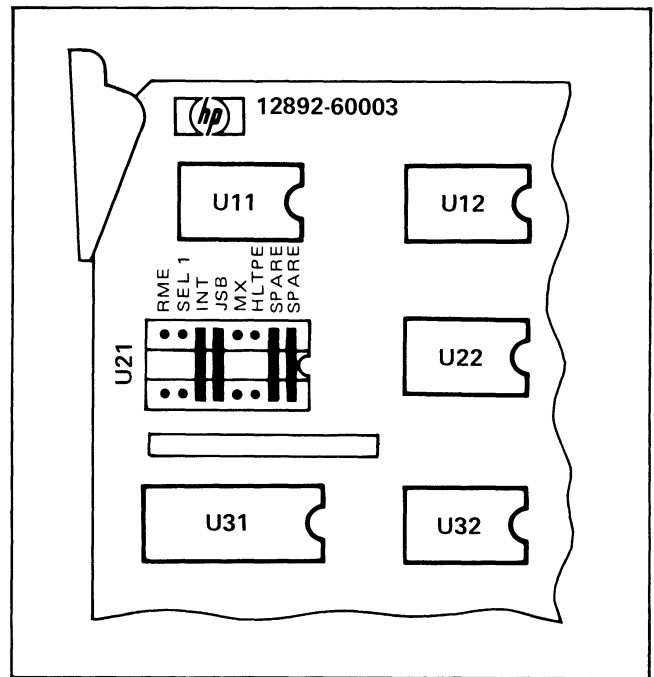

Figure 4-2. Memory Protect Configuration Jumpers
- On memory protect PCA, ensure that configuration jumper block U21 is configured as shown in figure 4-2.